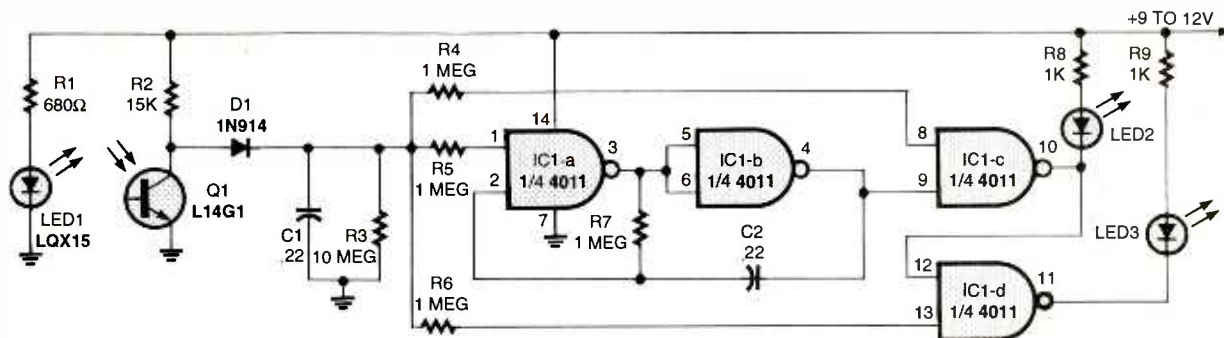

Fig. 6. The Flashing Railroad-Crossing Signal can be used with any gage or size model-train layout as long as a 9- to 12-volt DC source is available.
Coming up next is a Flashing LED Railroad Crossing Signal that's designed to work with any gage or size model-train layout wherein a 9- to 12-volt DC power source is available. The crossing signal (see Fig. 6) can be broken down into two simple circuits, an infrared (IR) emitter/detector and a gated LED flasher. The IR emitter (LED1) is located on one side of the track facing the IR detector (Q1) located on the opposite side of the track. As long as the path between the two
PARTS LIST FOR THE FLASHING RAILROAD-CROSSING SIGNAL (FIG. 6)
There are two problems that can occur while using the flasher in Fig. 6. If only one IR detector is used, the flasher *only* works when the train approaches the crossing from the side on which the detector is located. If the train happens to come from the other direction, the flasher won't start until the train has passed the crossing. The other problem occurs when the train stops and the gap between cars allows the IR signal to transverse the space between emitter and detector. Adding more detector cir-